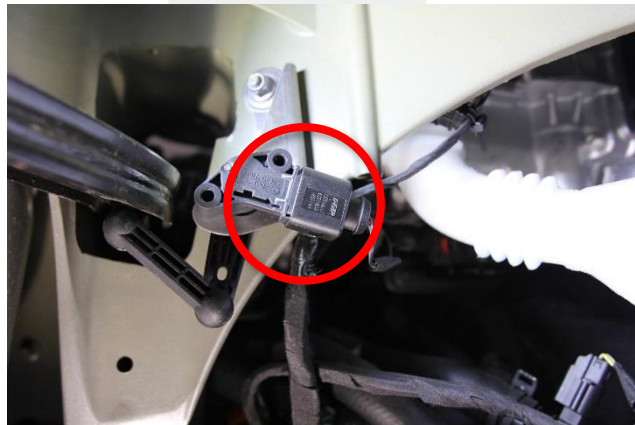

Figure 1 – LHD only
- c. Disconnect the LH front ride height sensor electrical connector (Figure 1).